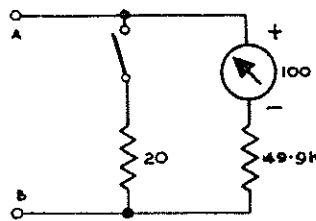

FIG. 8
11. Switch in Posn. 7 (50V. D.C., and testing of primary cells).—This range permits D.C. voltage measurements from 0 to 50 volts. A 49,900-ohm resistor is introduced into the circuit and the meter then gives a full-scale deflexion with 50 volts. Operation of the toggle switch connects a 20-ohm resistor across terminals A and B, to enable testing of ten primary cells in series; the connexions are shown in Fig. 8. A "Resistance Unit No. 2" is available and when this is connected in series with a Mark I instrument, the range of the scale is then extended from 0-50V. to 0-250V. (NOTE :-The cell testing resistors are 2 ohms and 40 ohms, respectively, in a Mark I instrument).